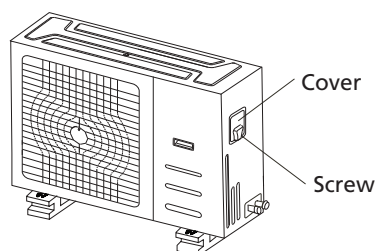

Fig. 8.1
- Remove the electric cover of the outdoor unit. If there is no cover on the outdoor unit, take off the bolts from the maintenance board and remove the protection board. (See Fig. 8.1, 8.2)